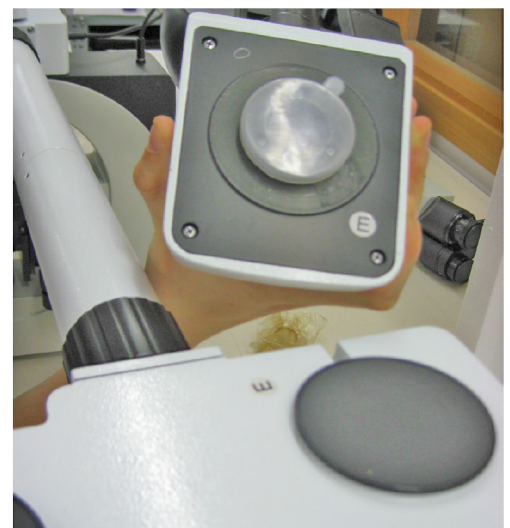

Fig. 9
- 2.10** Insert the binocular heads, matching the reference letters (Fig. 9).